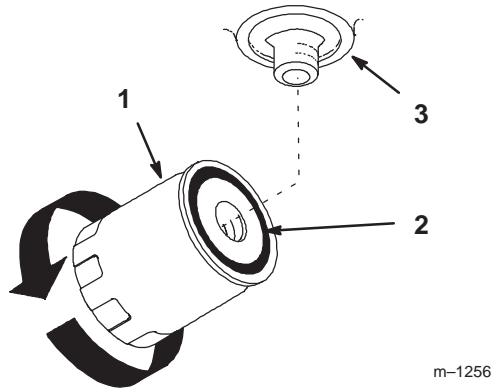

Figure 45
5. Apply a thin coat hydro fluid to the rubber gasket on the replacement filter (Fig. 45).
8. When fluid overflows filter turn the oil filter clockwise until the rubber gasket contacts the filter adapter, then tighten the filter an additional 1/2 turn (Fig. 45).